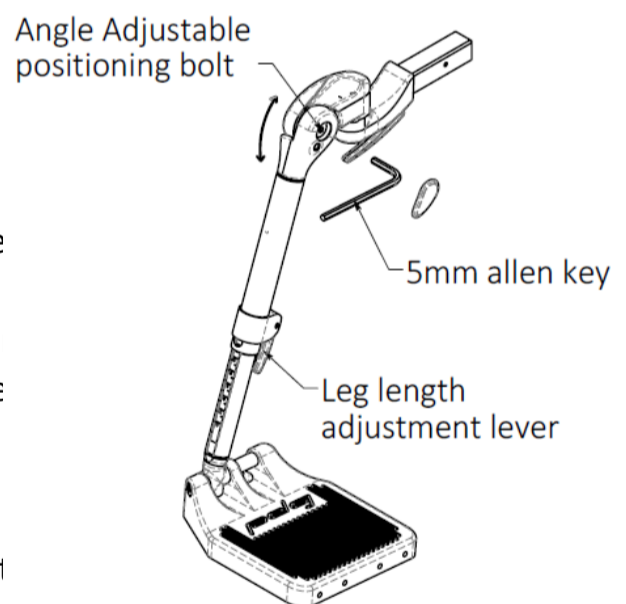

Figure 14.18: Easy-Out Angle Adjustable Front Rigging
- a. Release the footrest extension adjustment lever. This is shown in figure 14.18.